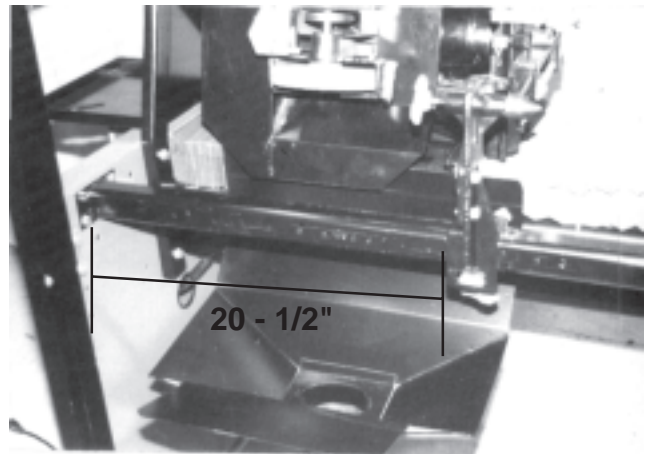

FIG. 9
1. Firmly lock the adjustable center at least 20-1/2" from the left end of the support bar. As viewed from the reel loading position. See FIG. 9. This will leave enough room for the alignment gauge to be positioned against the left end of the bedknife in later operating steps.